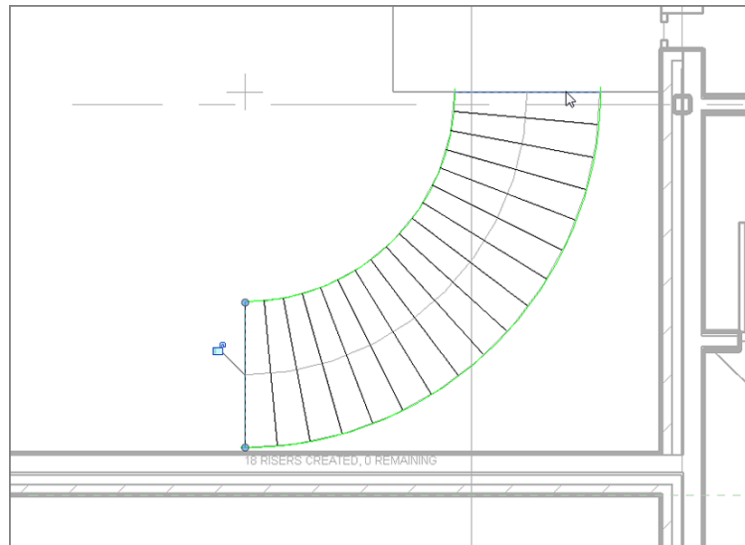

FIGURE 10.44: Picking the detail lines to lay over the stair components
6. Pick all of the lines you arrayed. This includes the bottom and the top lines (see Figure 10.44).